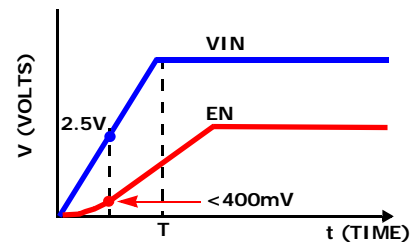

FIGURE 37. CIRCUIT IMPLEMENTATION WITH  $V_{IN}$  SLEW RATE
The enable (EN) input allows the user to control the turning on or off the regulator for purposes such as power-up sequencing. When the regulator is enabled, there is typically a 600 $\mu$ s delay for waking up the bandgap reference and then the soft-start-up begins. It is recommended that the EN voltage should be kept logic low (less than 400mV), until  $V_{IN}$  reaches 2.5V. Refer to Figure 37 for suggested circuit implementation with  $V_{IN}$  slew rate.